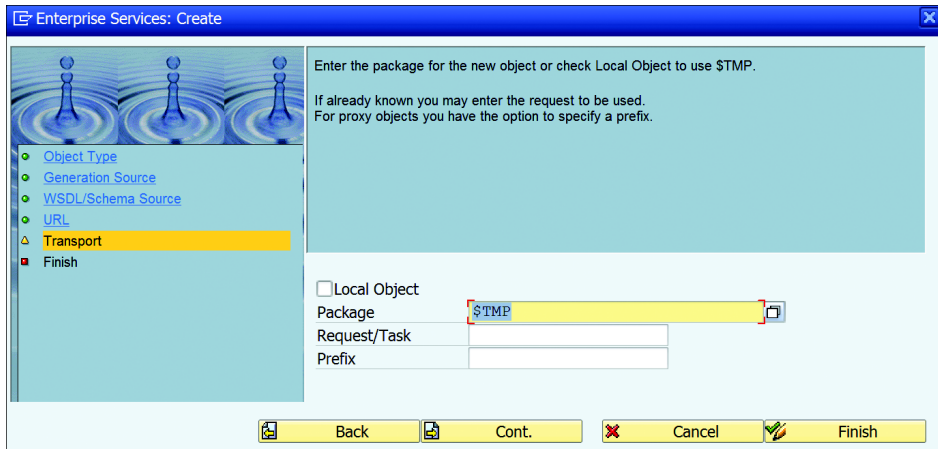

Figure 19.92 Maintain Package
7. Enter the PACKAGE details (see Figure 19.92).